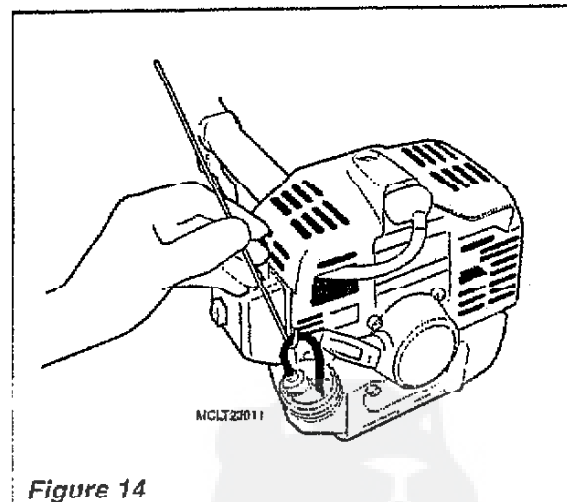

Figure 14
- Use a wire hook to extract the fuel filter from inside the fuel tank. Remove and replace the filter element. Before reinstalling the filter, inspect the condition of the fuel line. If damage or deterioration are noted, the unit should be removed from service until it can be inspected by a Shindaiwa-trained service technician. See Figure 14.